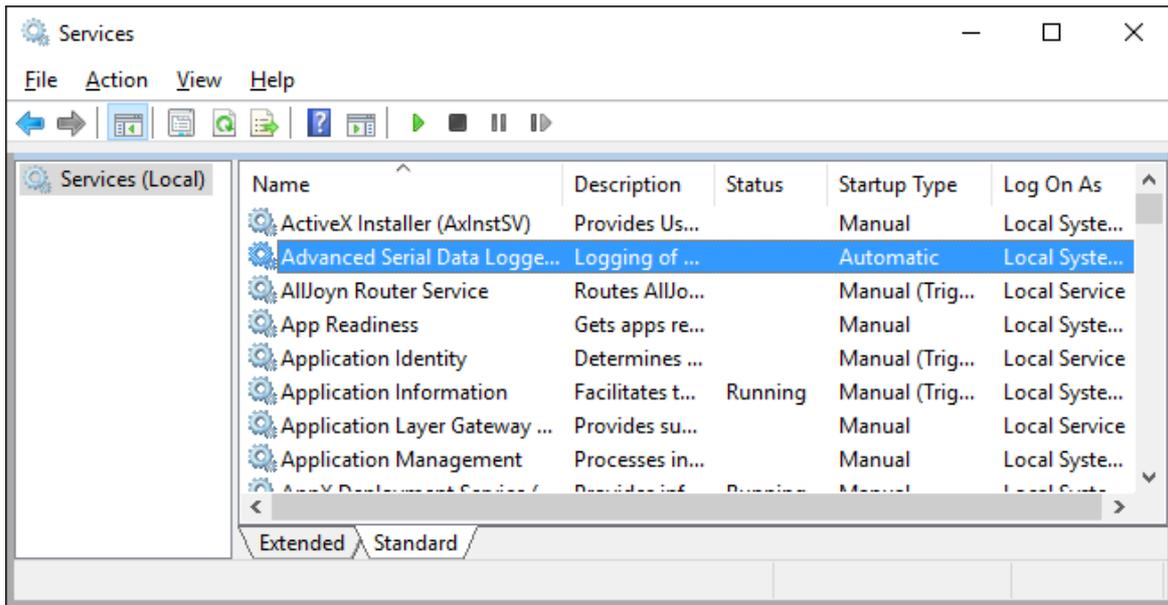

Fig. 29. Manual service run (in Windows 2000)
2. **Manual** - you can start the service application from the "Services" control panel (fig. 29).
After you configured Log Monitor & Export to work in the service mode, you need to restart a computer or start the service manually from the "Services" control panel (fig. 29).